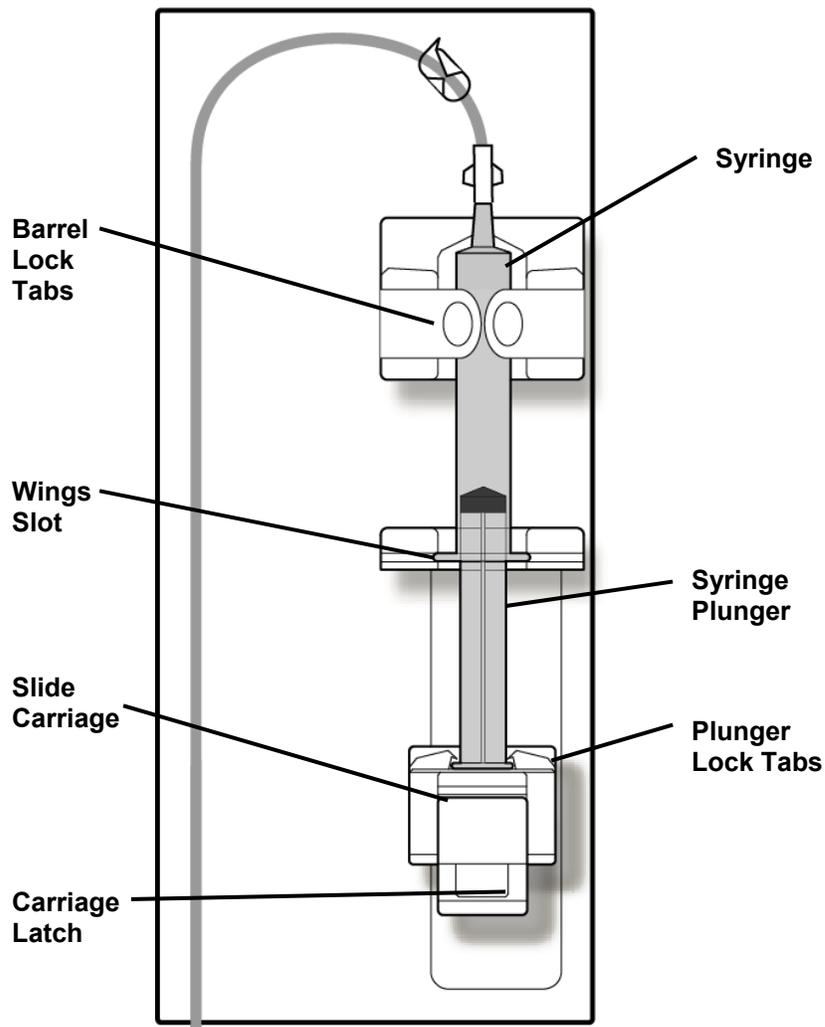

Figure 42 – The 2008K Heparin Pump Module with Syringe Loaded and Connected
6. Pull back one of the barrel lock tabs and press the barrel of the syringe into place. Slide the barrel wings of the syringe into the wings slot on the pump module. With the barrel in place, release the barrel lock tab (see Figure 42).